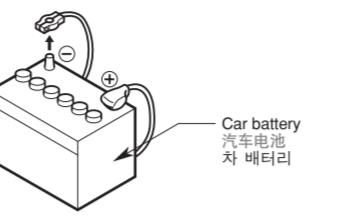

Figure 1 / 圖 1 / 그림 1
- Be sure to disconnect the battery "(-)" terminal before starting. This is to prevent short circuits during installation. (Figure 1)
- Before starting, please disconnect the battery's "(-)" terminal to prevent short circuits during installation. (Figure 1)